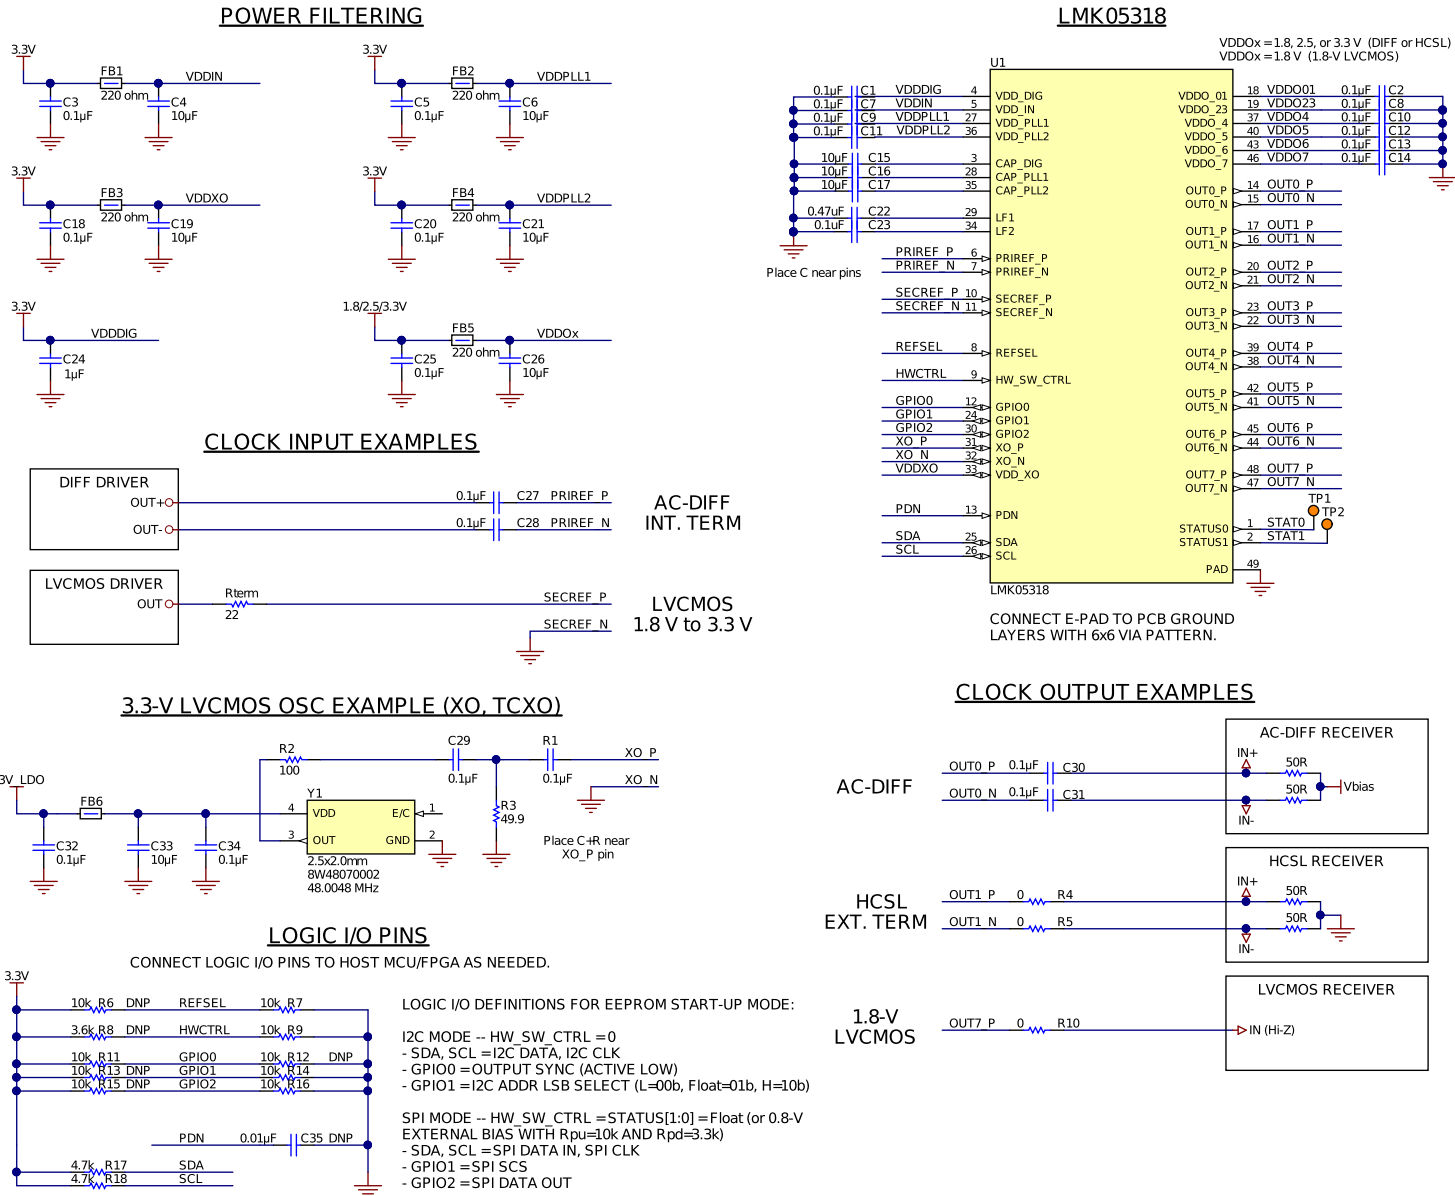

图 64. LMK05318 Reference Schematic Example
图 64 shows a reference schematic to help implement the LMK05318 and its peripheral circuitry. Power filtering examples are given for the core supply pins and independent output supply pins. Single-ended LVCMOS, AC-coupled differential, and HCSL clock interfacing examples are shown for the clock input and output pins. An external LVCMOS oscillator drives an AC-coupled voltage divider network as an example to interface the 3.3-V LVCMOS output to meet the input voltage swing specified for the XO input. The required external capacitors are placed close to the LMK05318 and are shown with the suggested values. External pullup and pulldown resistor options at the logic I/O pins set the default input states. The I²C or SPI pins and other logic I/O pins can be connected to a host device (not shown) to program and control the LMK05318 and monitor its status. This example assumes the device will start up from EEPROM mode with an I²C interface (HW_SW_CTRL = 0).
- For a 3.3-V LVCMOS driver, follow the OSC clock interface example in 图 64. Power the OSC from a low-noise LDO regulator or optimize its power filtering to avoid supply noise-induced jitter on the XO clock.
- Reference inputs: Follow the LVCMOS or differential clock input interface examples in 图 64 or Clock Input Interfacing and Termination.
- Clock output Interfacing: Follow the single-ended or differential clock output interface examples in 图 64 or Clock Output Interfacing and Termination.
- Power all the VDD pins with proper supply decoupling and bypassing connect as shown in 图 64.